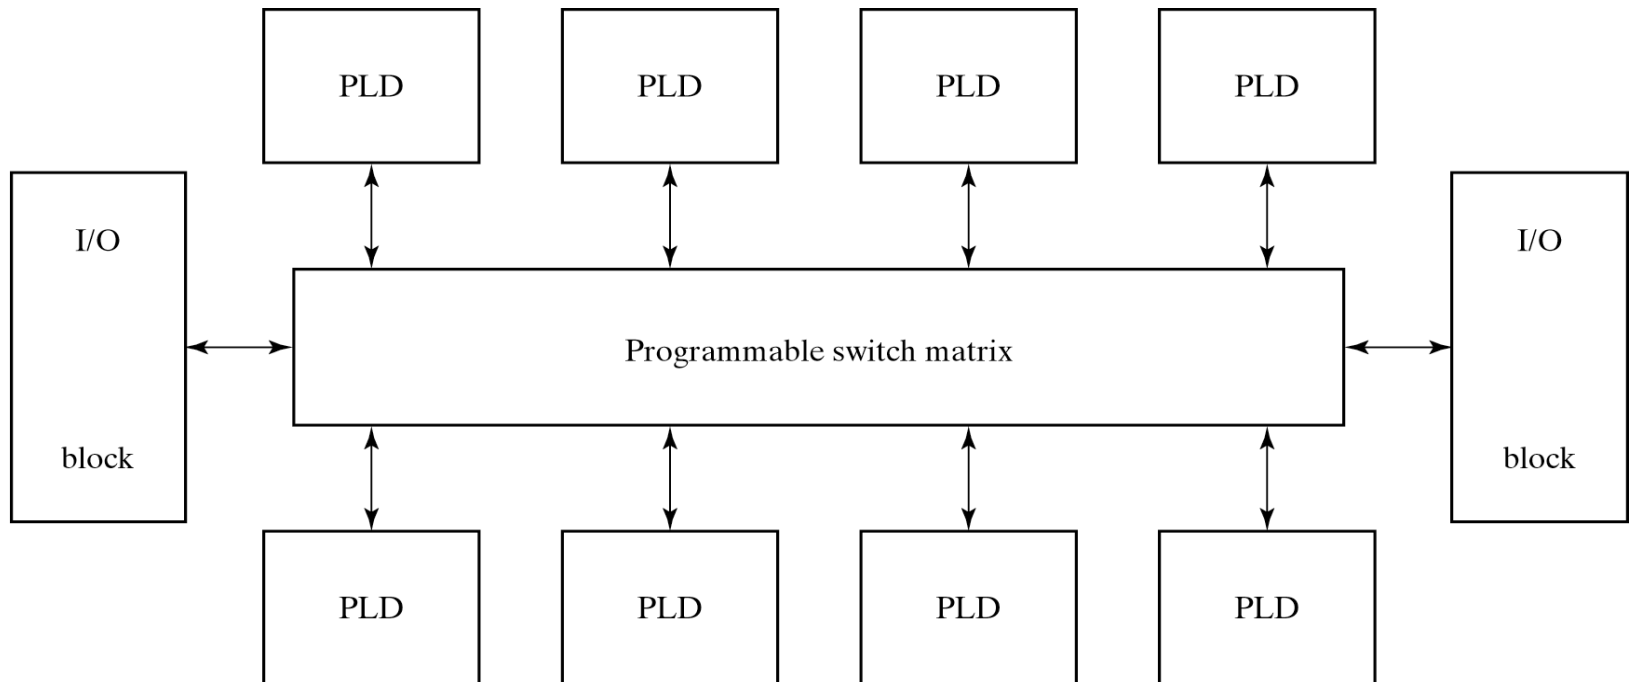

Fig. 7-20 General CPLD Configuration
- Fig.7-20 shows a general configuration of a CPLD. It consists of multiple PLDs interconnected through a programmable switch matrix. 8 to 16 macrocell per PLD.